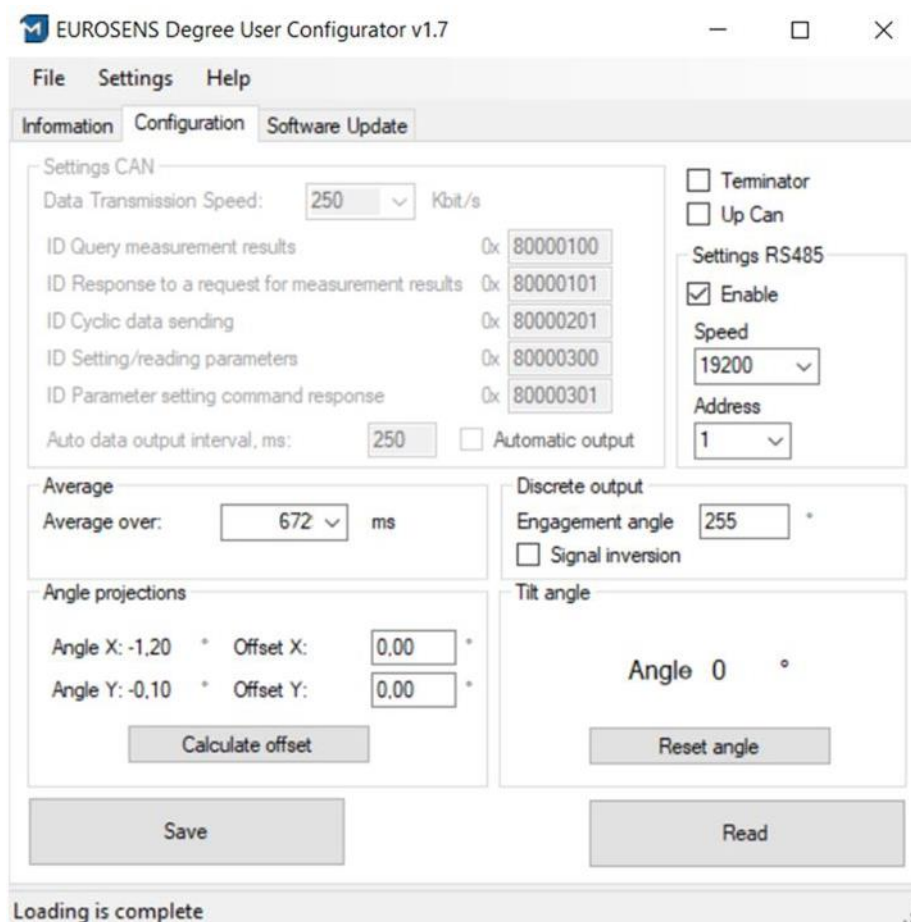

fig. 4.7. Tab «Configuration» (for eurosens Degree RS sensor)
- Tab «**Configuration**» (fig. 4.7) contains sensor settings. Depending on the sensor model, either the RS-485 (for Degree RS) or CAN (for Degree CAN) interface settings will be active.